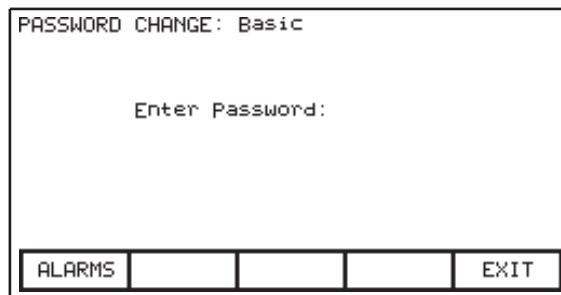

Figure 189 - Changing the Access PIN
The default PIN for both 'Basic' and 'Advanced' access is zero (0), or [Enter]. Change the PIN from the ACCESS screen using ▲ or ▼ to select the access level. Press [F9] to open the PASSWORD CHANGE utility (Figure 189).